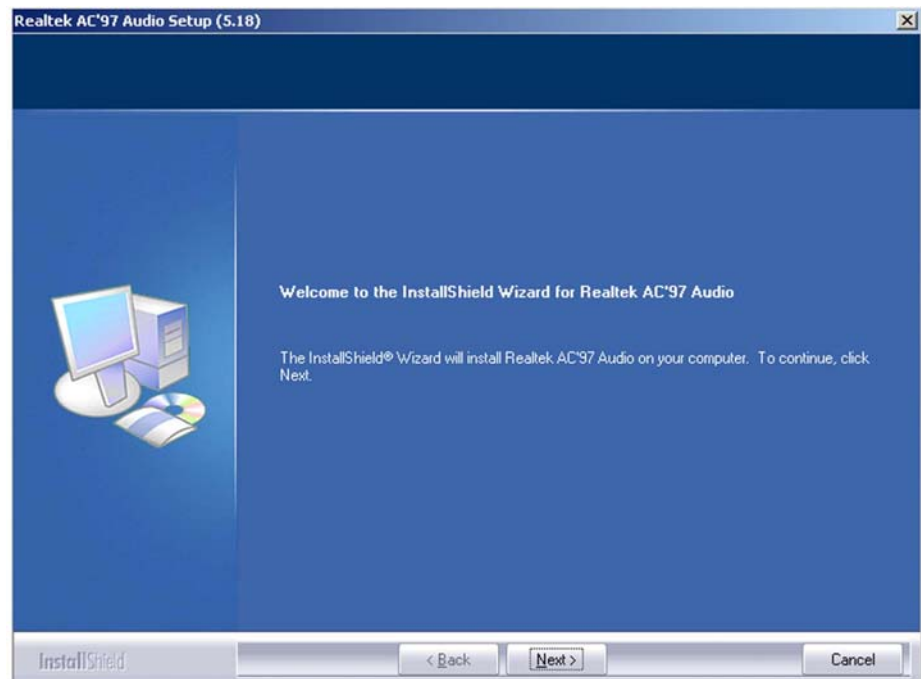
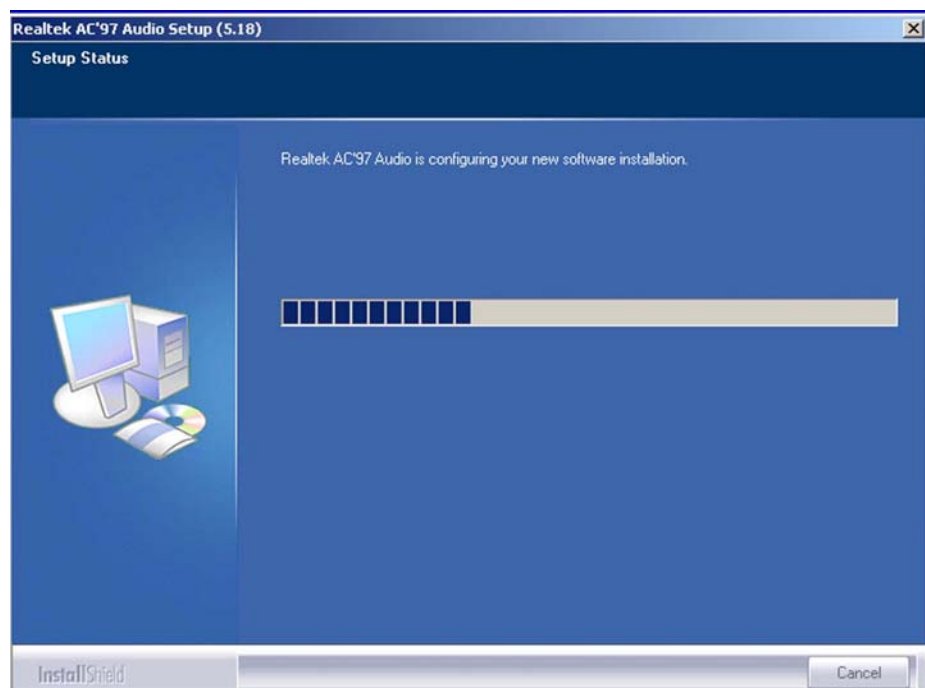

Figure 6-8: Audio Driver Welcome Screen
Figure 6-9: Audio Driver Software Configuration
- Step 4:** After install shield is prepared, the welcome screen shown in **Figure 6-8** appears. To continue the installation process, click the "**Next**" button. The install shield starts to configure the new software as shown in **Figure 6-9**.